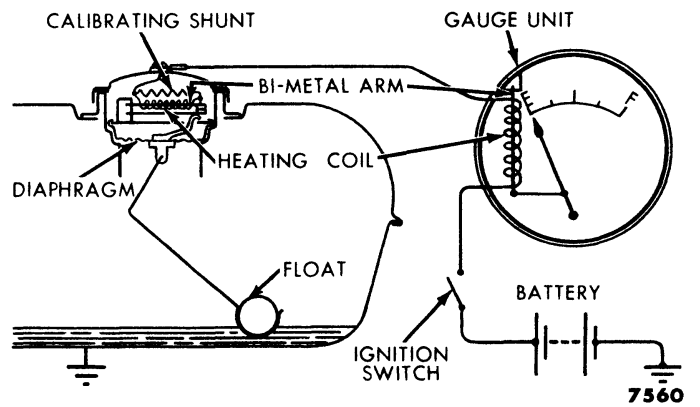

Fig. 26—Fuel Gauge Circuit
The fuel gauge consists of a sending unit, located on the gas tank, and a remote register unit (fuel gauge) mounted in the instrument cluster. The sending unit uses a bi-metallic element and heating coil to control the average current flowing through the gauge circuit. The position of the gauge pointer is controlled by another bimetallic element and heating coil. The fuel gauge circuit is shown in fig. 26.
(1) **OPERATING PRINCIPLES.** When the fuel tank is empty, the contacts in the tank unit are just touching (see fig. 26). With the ignition switch ON, current flows through the circuit and warms the tank unit bimetallic element by means of the heating coil, causing the element to bend and the contacts to open. The current is interrupted, allowing the element to cool and close the contacts. The cycle then repeats. The current to the heating coil in the tank unit must also flow through the heating coil in the gauge unit. Consequently, the amount of heat supplied to the gauge unit is the same as that in the tank unit. This heat is controlled by the average current flowing through the circuit due to the repeated opening and closing of the contacts in the tank unit. With the tank empty, the gauge bimetallic element therefore assumes the same relative position as the tank unit element, and the pointer is at the "E" position on the gauge.